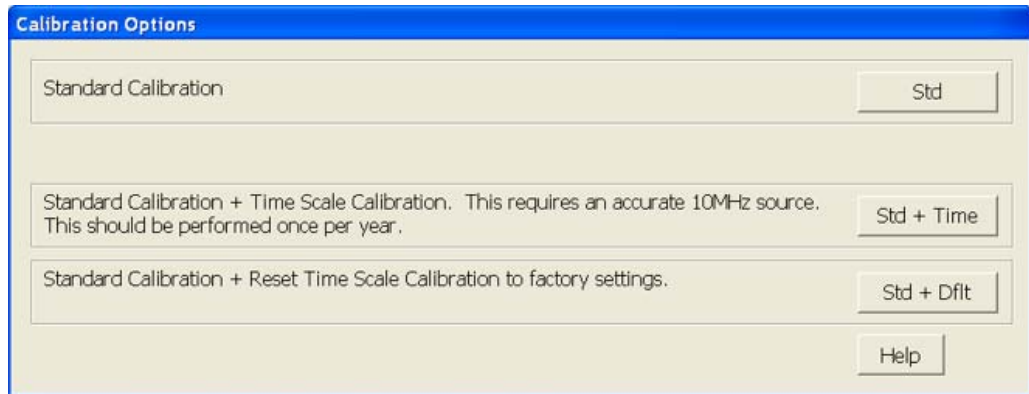

Figure 83 Time Scale Calibration Dialog box
- c** During the calibration of channel 1, you will be prompted a Calibration Options screen, as shown in Figure 83 below.